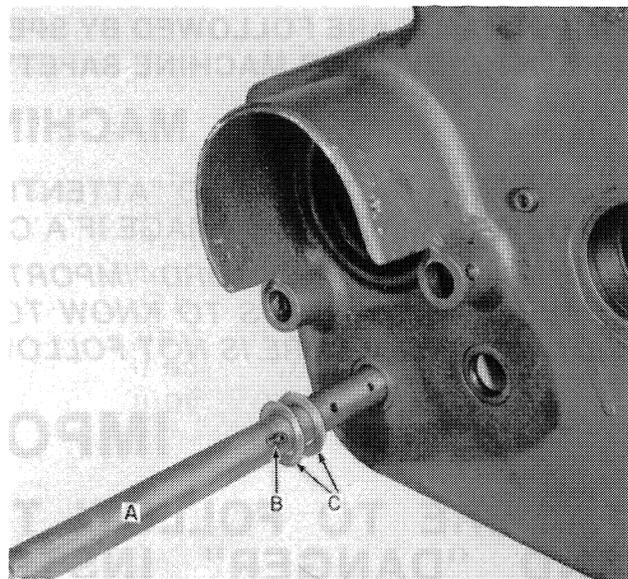

FIGURE 24
2. Install the nip roll shaft, A, Figure 24, into the gearbox housing, after installing the friction pin shown at B, and two shims shown at C, Figure 24. As this shaft, A, Figure 25, is being slid into the gearbox, slide it through the straight cut gear, B, and spacer, D, Figure 25. Secure the straight cut gear, B, Figure 25, to the shaft, A, with a new friction pin at C. Note that the hub of the straight cut gear should be facing the spacer, D, Figure 25.